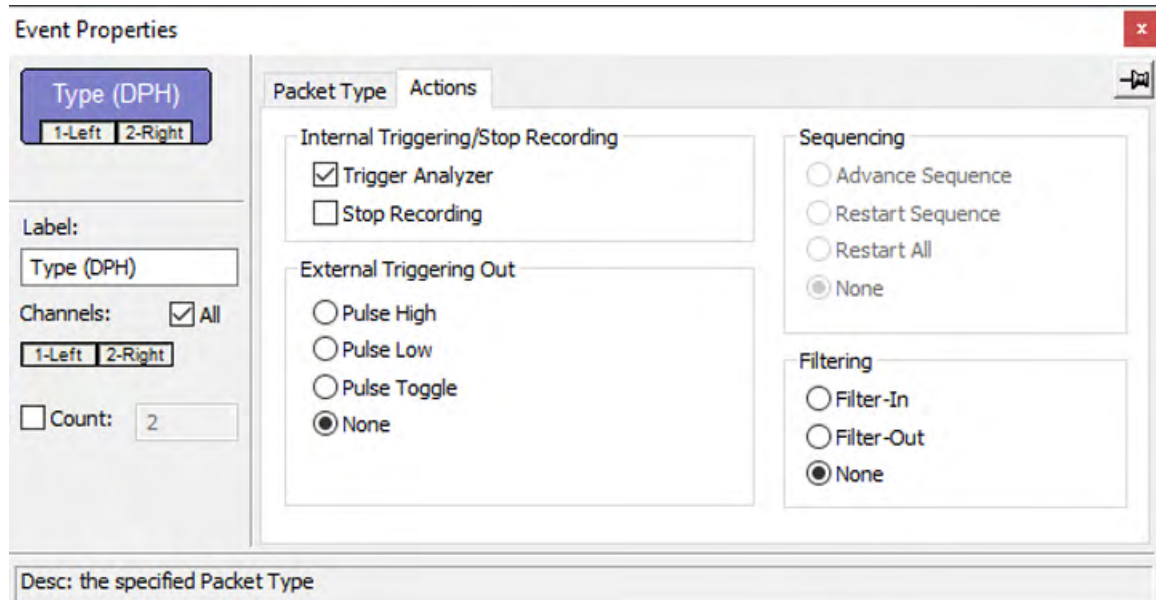

Figure 10.31: Action Assigned.
**Note:** You can also set actions within the Properties dialog for each event. Double-click the Event button to open the Properties dialog, then select the Actions tab and set your actions. See Figure 10.31.